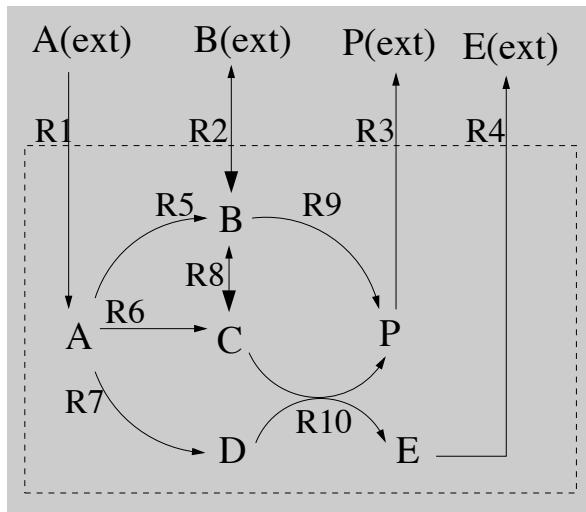

Figure 1: Metabolic network, Klamt & Stelling, *Stoich. and Constraint-based Modeling*, MIT Press, Apr. 2006
A biotech startup company provides the simple network given in figure 1 describing some metabolic pathway of interest. Two substrates (A and B) are converted into the pharmaceutically relevant precursor P and a byproduct E . Your task is to analyze the conversion process in more detail using stoichiometric network analysis methods.
- Derive the stoichiometric matrix $N^{m \times n}$ from figure 1, where $m = 6$ denotes the number of metabolites (A, B, C, D, E, P), and $n = 10$ the number of reactions.